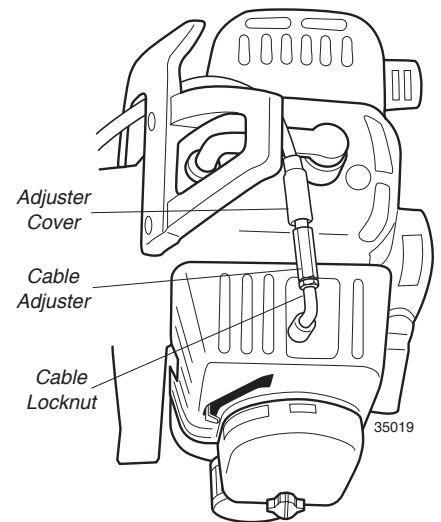

Figure 19
- Loosening the cable locknut and then screwing the cable adjuster in or out until proper free play is achieved. See Figure 19.